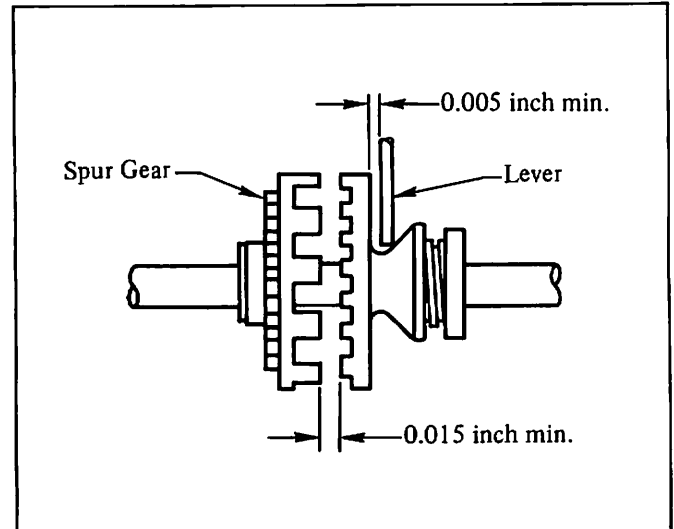

Figure 29. Clutch Lever Adjustment.
- b. Measure the clearances as shown in Figure 29.